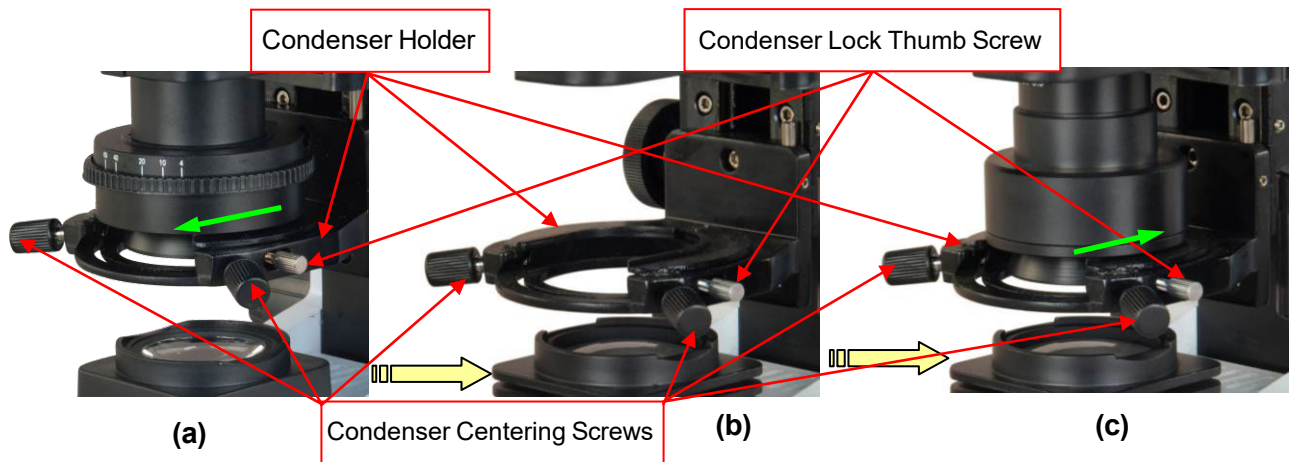

Fig.12
- Loosen the condenser lock thumb screw on the condenser holder and remove the brightfield condenser as shown in **Fig. 12 (a)**.
- Install the oil darkfield condenser and tighten the condenser lock thumb screw on the condenser holder as shown in **Fig. 12 (c)**.